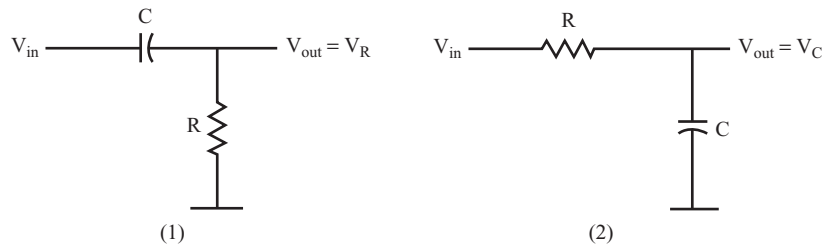
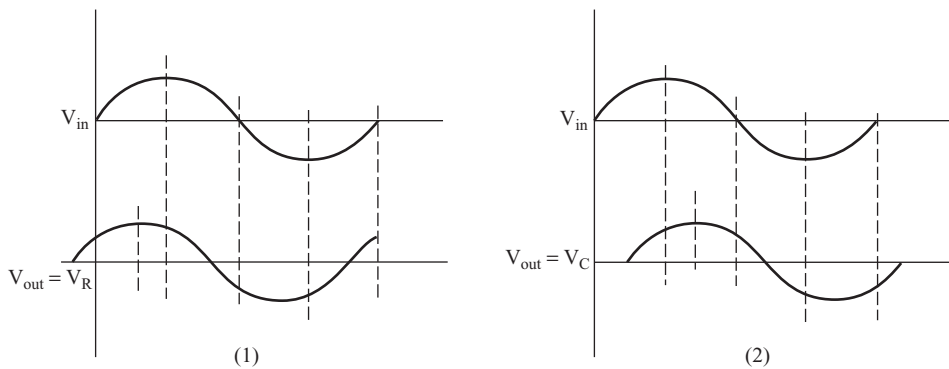

FIGURE 6.26
FIGURE 6.27
20 In both of the circuits shown in Figure 6.26, the output voltage is different from the input voltage.
21 The voltage is also changed in another way. The voltage across a capacitor rises and falls at the same frequency as the input signal, but it does not reach its peak at the same time, nor does it pass through zero at the same time. You can see this when you compare the V_{out} curves to the V_{in} curves in Figure 6.27.
NOTE The numbered graphs in Figure 6.27 are produced by the corresponding numbered circuits in Figure 6.26.
22 The output voltage waveform in graph (1) of Figure 6.27 is said to *lead the input voltage waveform*. The output waveform in graph (2) is said to *lag the input waveform*. The amount that V_{out} leads or lags V_{in} is measured in degrees. There are 90 degrees between the peak of a sine wave and a point at which the sine wave crosses zero volts. You can use this information to estimate the number of degrees V_{out} is leading or lagging V_{in} . The difference between these two waveforms is called a *phase shift* or *phase difference*.